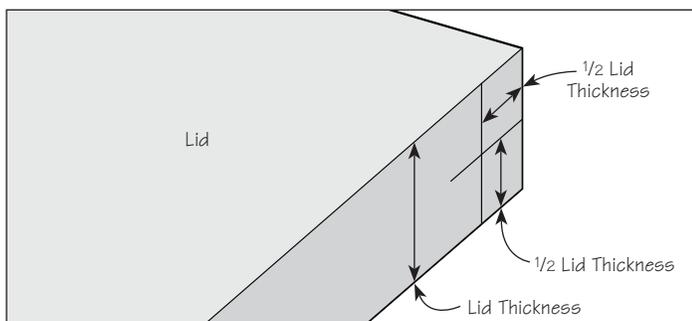

Figure 2: Hole location on the lid.
1. On each side of the lid edges, mark the location of the holes such that they are **centered relative to the thickness of the lid**, as shown in Figure 2.